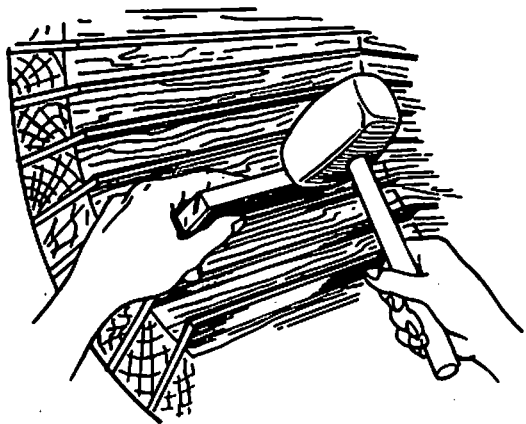

Fig. 4 Seating Bars Against Shell
3. Go over all shell bars and woods with a lead or copper hammer to make sure they rest firmly against the shell at all points. Any bars not seated properly will cause difficulty when installing the plug and when grinding. Fig. 4.